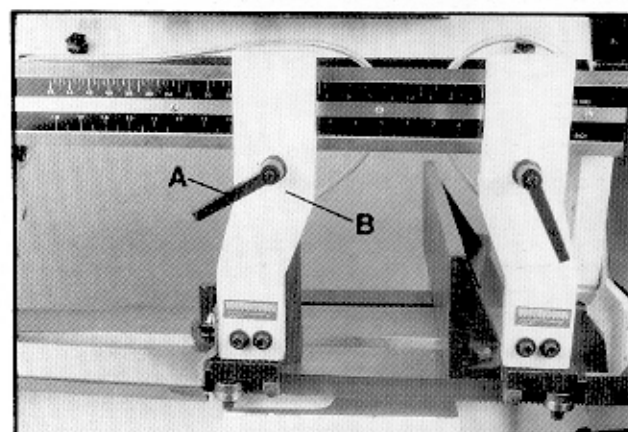

Fig. 8
6. Loosen lock knob (A, Fig. 8) and slide left blade guide arm (B, Fig. 8) to the right as far as possible.